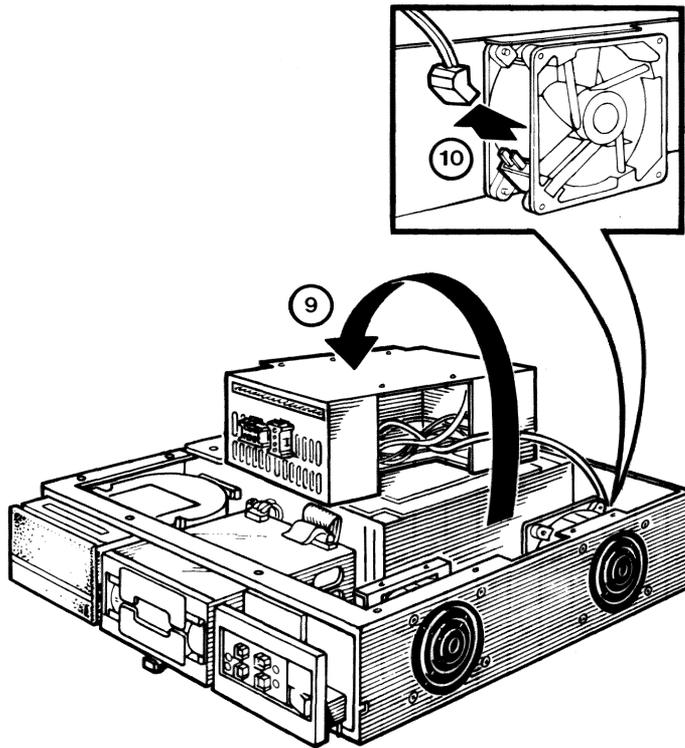

Figure 6-17 Power Supply and Fan Connector Removal
9. Lift the power supply assembly out of the chassis and rest it on top of the Q22-Bus module cover. (Figure 6-17)